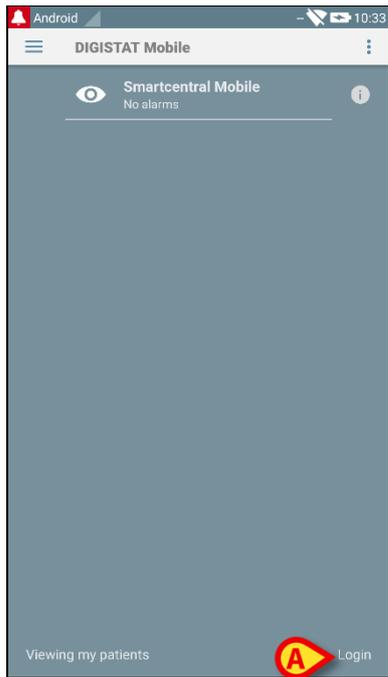

Fig 139
- Touch **Login** on the lower-right corner of the “Applications list” screen (Fig 139 **A**)